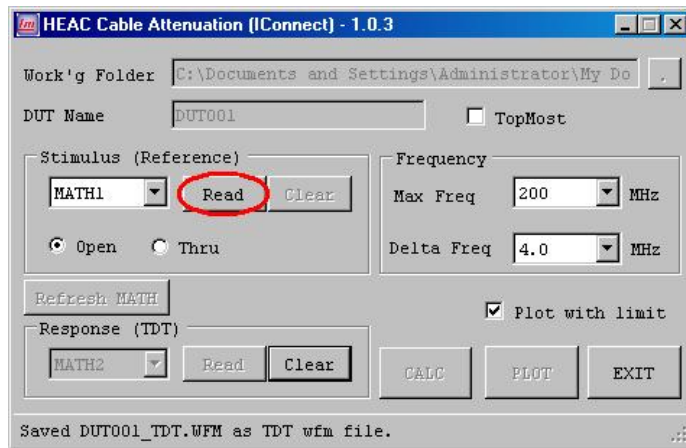

**Figure 29: Remove the cable**
(28) Remove the cable under test from HEAC-TDR-R adapters (see Figure 29).